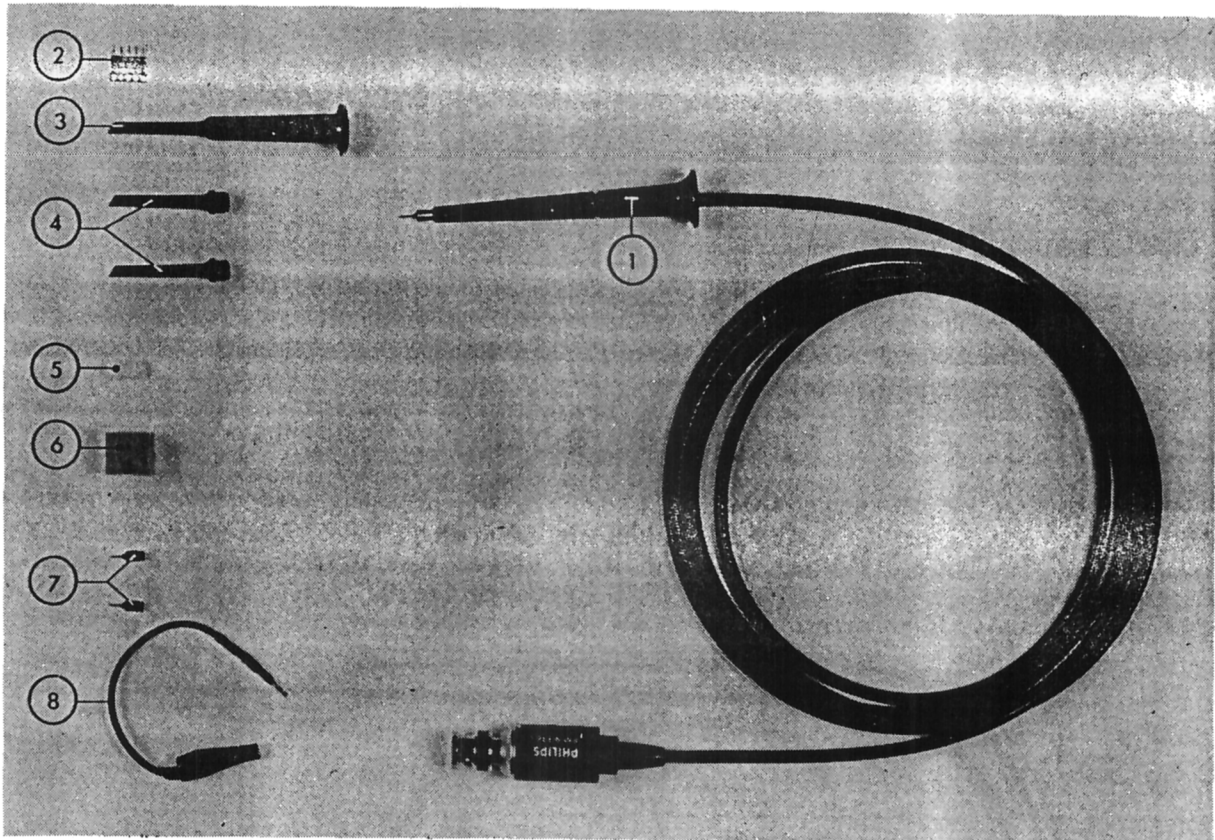

Fig. 3.33. Attenuator probe set PM 9336 (PM 9336L)
1 probe assembly	Fig. 3.33, item 1
5 soldering terminals	Fig. 3.33, item 2
1 test hook	Fig. 3.33, item 3
2 spare test hook sleeves	Fig. 3.33, item 4
1 protective cap	Fig. 3.33, item 5
1 probe holder	Fig. 3.33, item 6
2 probe tips	Fig. 3.33, item 7
1 earthing cord	Fig. 3.33, item 8